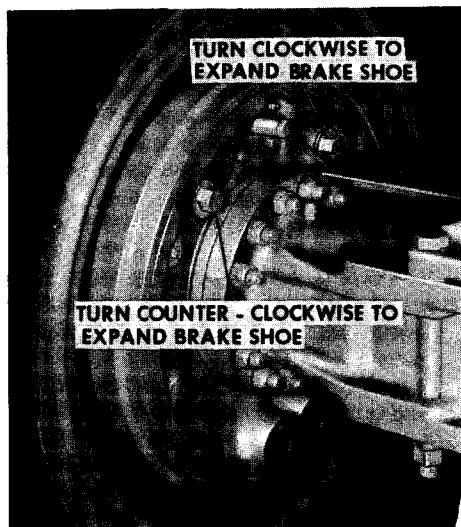

Figure 79
2. Expand brake shoes on each front wheel, as shown in Figure 79, until a heavy drag is felt when rotating the wheels.